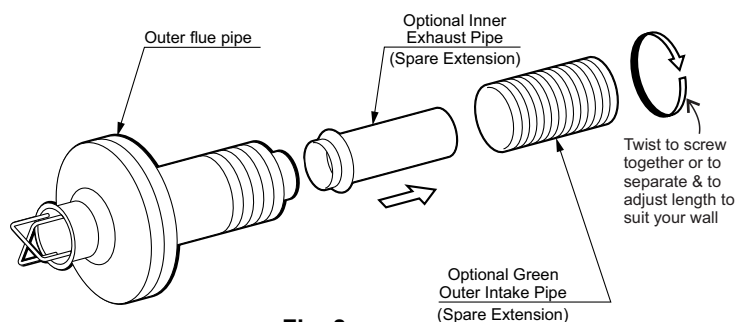

Fig. 8
5. Install the Green Balanced Flue. FF-95C Heaters can be supplied with extensions to the outer and inner Balanced Flue sections (See Fig. 8) to enable the Balanced Flue to be installed in walls over 150mm & up to 320 mm thick. If the wall is less than 230 mm thick, the 130mm Inner & Outer Flue Extensions as in Para 5b, Fig. 8 are superfluous.
- 5b. Where the wall thickness is between 150-230mm, discard the optional 130mm long Inner and Outer Extensions if supplied (See Fig 8).